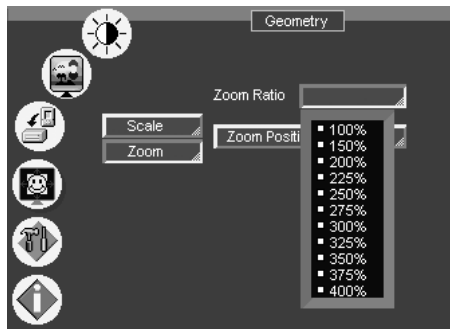

Figure 23: Geometry (Zoom Ratio) Screen
- Using the OSD Menu buttons, as Figure 23 illustrates